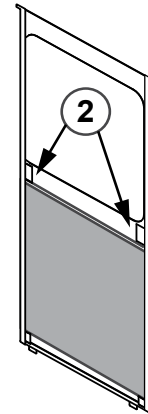

Figure 24.5
3. Stack non-combustible material tiles in tile frame as shown in Figure 24.2 by sliding first tile in, bend tabs on back side Figure 24.5, then slide last tile in position so that it rests on tabs.